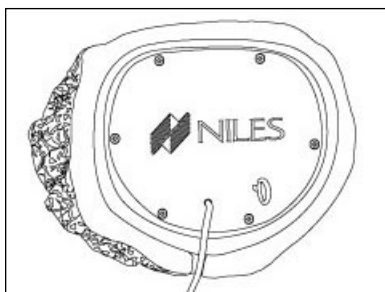

Figure 7 Bottom of Loudspeaker
1. With the loudspeaker in the proper location, turn the loudspeaker over so the bottom of the loudspeaker is facing you, as shown in **Figure 7**.